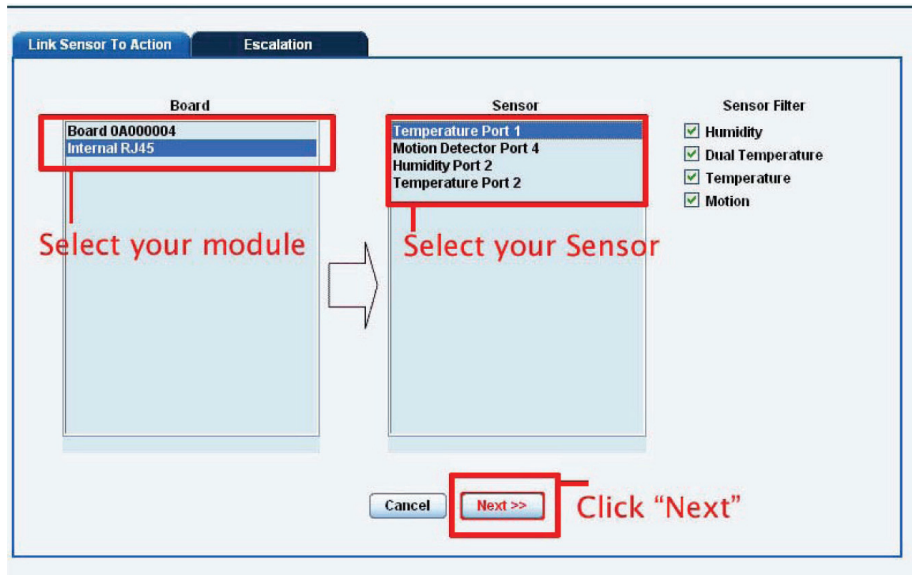

Figure 4-5. Parameter Selection, screen #1.
3. After clicking “Next,” you’ll see the screens shown in Figures 4-5 and 4-6.